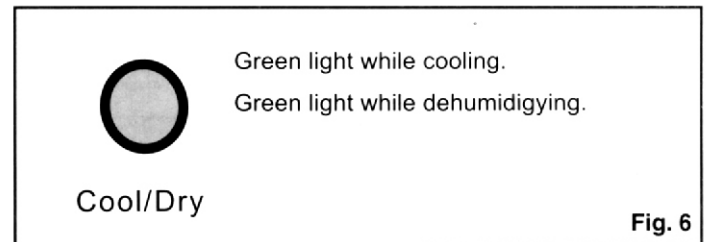

Fig. 6
**MODE Indicator Lights:** Illuminates under the different mode settings *Fig. 6*;